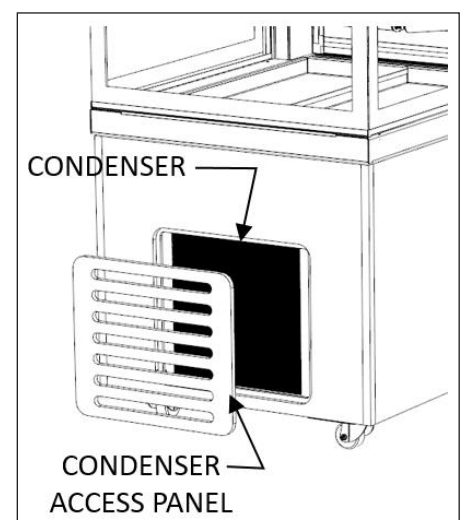

Figure 4 - Condenser cleaning - Front Vent
- (a) The Condenser is located on the front (customer facing) side of the unit. See Figure 4.